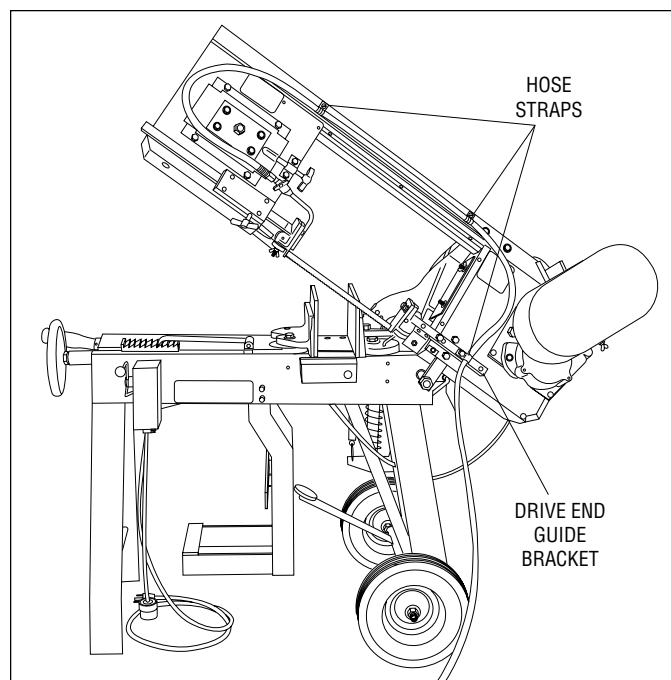

Figure 6
5. See Figure 6. Attach the coolant nozzle to the blade roller support with two #10 - 32 x 3/8 round head machine screws (14). Secure the coolant hose with three hose straps. Attach two of the hose straps with two 1/4 - 20 x 1/2 round head machine screws (13); attach the third hose strap screw on the drive and guide bracket, as shown.